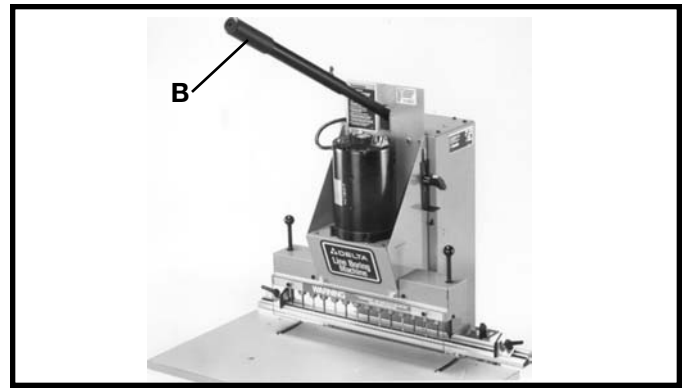

Fig. 50
For extra leverage when boring holes, the handle (B) Fig. 50, can be pulled out as desired to increase leverage, as shown. To move the handle (B) out of the way when not in use, simply push in on handle.
2. Pull down on the handle (B) Fig. 50, the stop bracket (B) Fig. 51, should contact the stop screw (E) Fig. 51 at the same time that the bits touch the table.